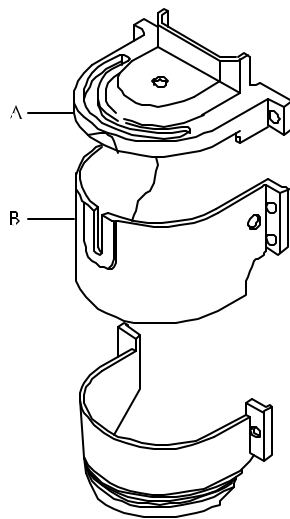

Figure 1
2. Using a 3 mm Allen Wrench, **remove** 6 screws from A and B Sewing Head Covers. See *Figure 1*.